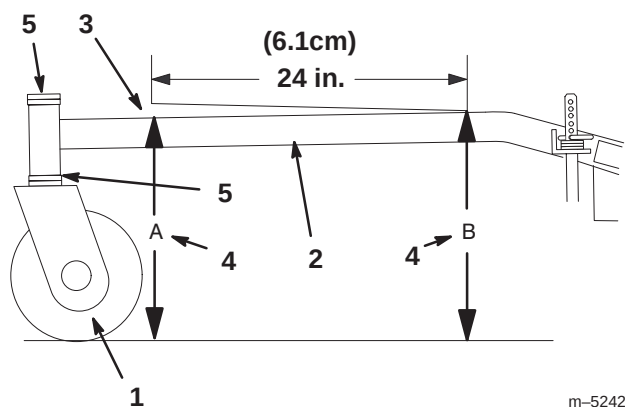

Figure 46
The carrier frame must have a pitch of a 1/4 in. (6 mm) over the length of 24 (6.1 cm) inches on the carrier frame (Fig. 46).
1. Measure out 24 inches (6.1 cm) on the carrier frame (Fig. 46).
2. Measure carrier frame height at location “A” (Fig. 46).
3. Measure carrier frame height at location “B” (Fig. 46).
4. The height at location “A” must be a 1/4–3/8 in. (6 mm – 10 mm) lower than location “B” (Fig. 46).
5. If the carrier frame is not correct, move caster spacers to make it a 1/4–3/8 in. (6 mm – 10 mm) pitch (Fig. 46). Move spacers from top or bottom to make the correct pitch.